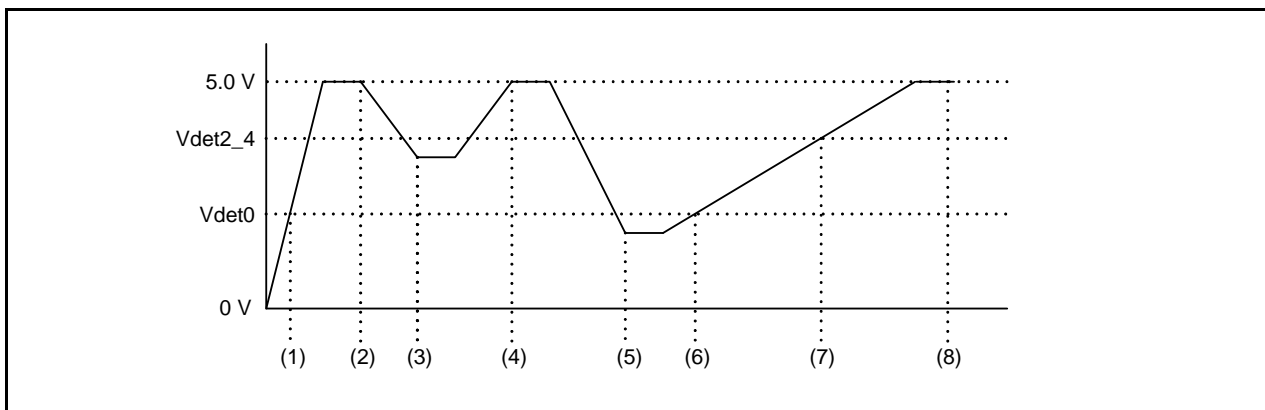

Figure 3.2 Voltage Transition
Table 3.1 lists the operations when the voltage transitions as shown in Figure 3.2.
Table 3.1 Operations for (1) to (8) in Figure 3.2